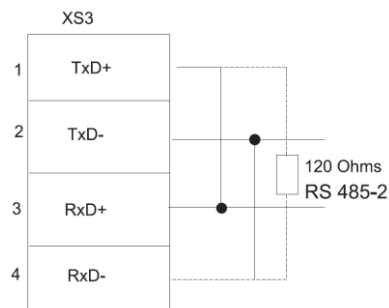

Fig. 18. S3 as RS-485 2-wire wiring diagram.
- Attach the module to the XES connector (figure 18).